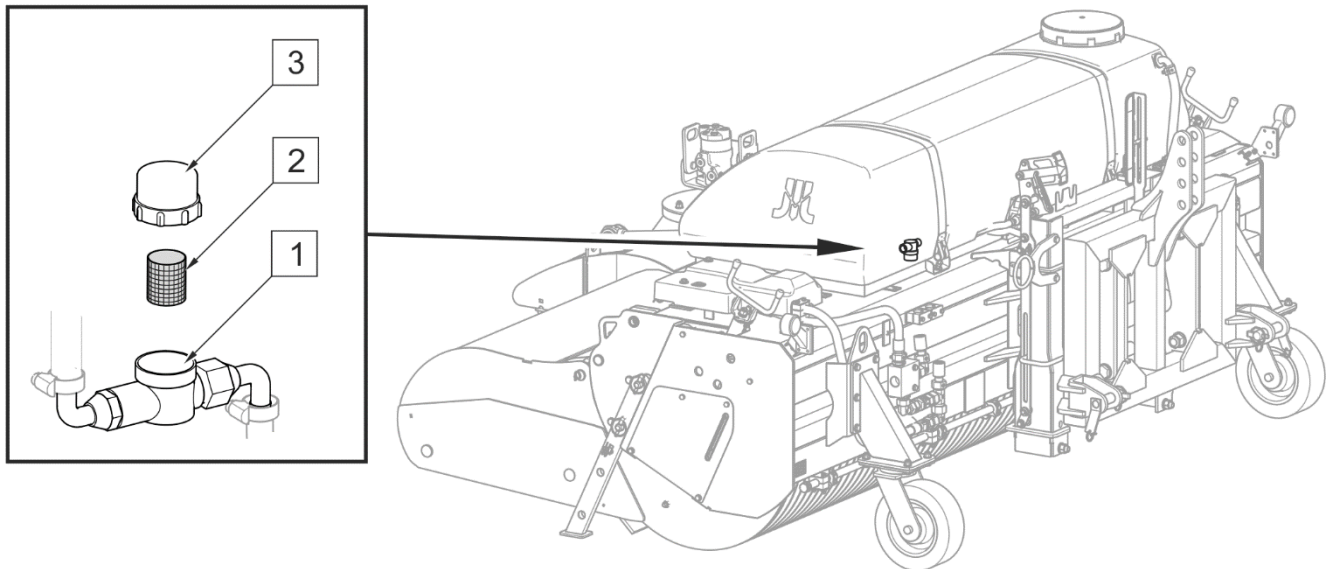

FIGURE 5.13 Filter in water tank
(1) - filter housing; (2) - mesh cartridge; (3) - cover
The mesh cartridge filter (2) installed in front of the water tank should be periodically checked and cleaned (FIGURE 5.13). To clean the mesh cartridge (2), drain water, remove bands securing water tank and raise the tank above the frame. Unscrew cover (3), remove cartridge (2) from housing (1) and wash it with water under pressure or clean with compressed air. Install cartridge, tighten filter housing and check tightness of connection.